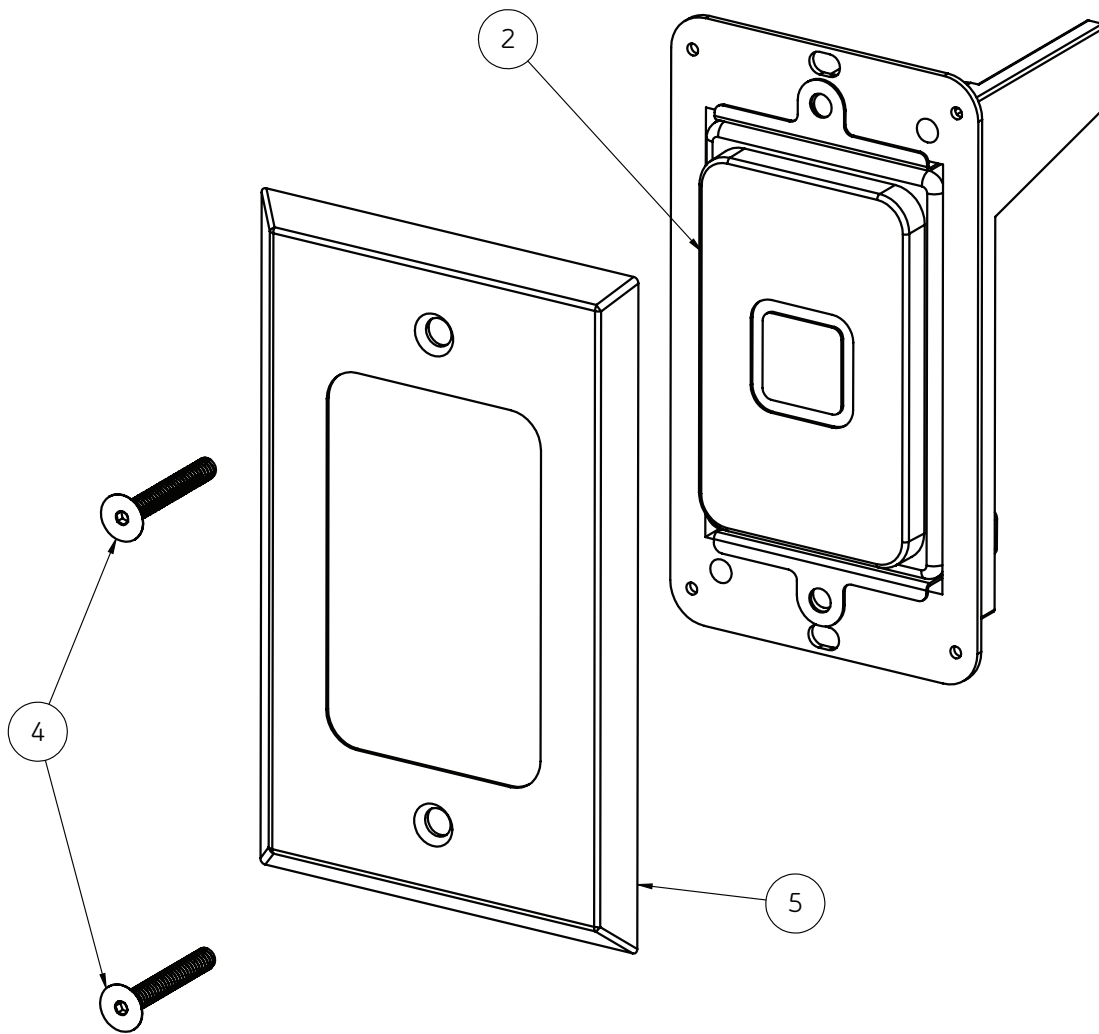

FIGURE 1
2. Adhere the round gasket (in hardware bag) to the back plate (item #4) with the cutout located so the gasket does not cover the screw (item #7) as shown in Figure 1, if not installed